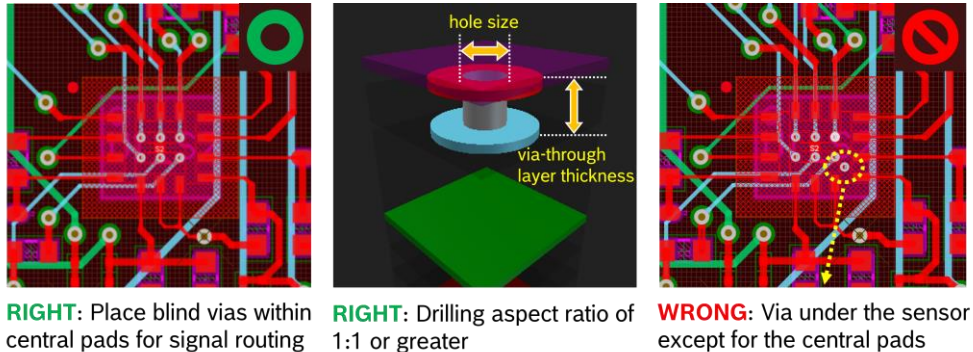

Figure 20: Top layer placement examples for BHI3xy
- The blind via must comply with a drilling aspect ratio of 1:1 or greater, where the aspect ratio is defined as the hole size divided by the via-through layer thickness. See Figure 20.